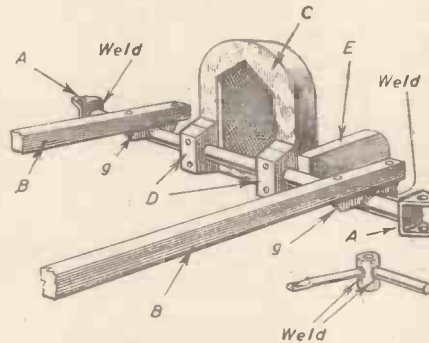
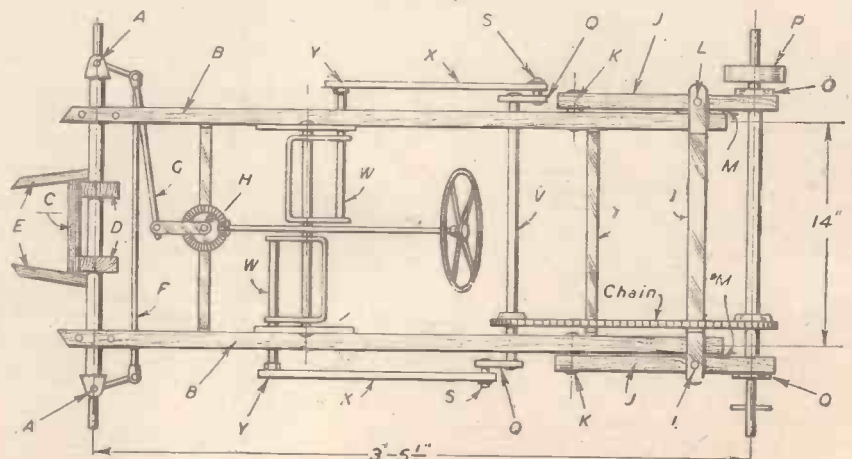

Fig. 2.—Details of front axle and stub axle mountings.
Fig. 3.—General assembly plan of the chassis.
The chassis members are of 1in. x 2in. hardwood, the 2in. dimension vertical, and the sides parallel. For the front axle a 19in. length of ½in. diameter mild steel tubing was cut, and a U-shaped bracket was welded to each end to take the stub axle mountings. These brackets are clearly shown at A in Fig. 2, and in the general assembly drawing, Fig. 3. Two drilled brackets for bolting to the chassis members B are shown at g, and were welded into position 7in. each side of
cross-member, which is shown at T in Fig. 3, also forms the front of two seat supports 3in. below the top of the chassis members.
Having thus obtained a fairly rigid chassis I set to work on the steering gear so that when the rear suspension was finished and fitted it could immediately be tested and adjusted. Two pieces of ½in. tubing were cut to fit inside the U-pieces (A Fig. 2) at
of 5/16 dia. steel with a U-socket screwed on each end which fitted over a tongue filed on the swivel links. The steering layout is shown fully in Fig. 3, F being the track rod.
I removed the chuck and handles from an old handbrace and welded the body containing the gears on to a strip of ½in. x ½in. steel (H Fig. 3). This was bolted across the chassis 7in. from the front so that the gears were centrally placed, and a drag link connected from the existing arm on the larger wheel to the offside swivel arm G. The steering column was made from ½in. dia. tubing 21in. long, into which was inserted and riveted the shoulder of the small gear. The dashboard was cut out of 5-ply wood, and three dials—rev. counter, oil gauge, and fuel gauge—were inserted into suitable holes with celluloid covers. The assembly was fixed to the chassis by means of a strip aluminium former screwed right round the outside of the dashboard and bolted at each end to the chassis members.
The rear suspension was next tackled and is described with the help of Figs. 3, 4 and 5. The cross-member I is bent from 1in. x ½in. mild steel and forms the rear seat support and the top anchor of the
The rear axle was made from  $\frac{1}{2}$  in. dia. steel rod turned down to  $\frac{1}{4}$  in. dia. for  $3\frac{1}{2}$  in. each end to take the ball races and wheels. An adaptor was made to take an 18-tooth cycle chain wheel and to be a push-on fit on the larger diameter of the axle. This was put on to the shaft, but was not positioned or fixed until the crankshaft was fitted, and then a  $\frac{1}{2}$  in. ball race in a suitable steel housing was pushed on each end of the axle up to the shoulder between the  $\frac{1}{2}$  in. and  $\frac{3}{4}$  in. diameters. Each housing face was drilled with three  $\frac{1}{4}$  in. diameter holes to correspond with those in the arm J. A  $\frac{1}{2}$  in. dia. pin projecting  $\frac{1}{2}$  in. each end was put through the nearside end of the axle to engage with a slot in the hub of the wheel to take the drive. The wheel, a hammer-fit on the shaft, was kept against the pin by a spring washer between the wheel and a split-pin in the end of the shaft. The offside wheel revolves freely on the axle for "differential necessities." A 4 in. diameter wooden brake disc (P, Fig. 3), bolted to a steel adaptor, is secured to the axle between the bearing housing and the wheel. The whole axle assembly was then bolted on to the arms J by slipping it up into the slots N (Fig. 4) and bolting the arms J to the bearing housings O in Fig. 3. The chassis was then levelled up and springing adjusted equally.
$\frac{1}{2}$  in. x  $\frac{1}{2}$  in. tubing (V, Figs. 3 and 6). An adaptor to take another 18-tooth chain wheel was slipped over the tube V, and another crank web made in a similar manner was riveted to the other end of U at 180 deg. to the first. The complete crankshaft was then placed in position in the chassis and with each web at an equal distance from the chassis members, the adaptor was positioned just inside the near side chassis member, where
A radiator was cut out of wood and shaped as at C in Fig. 2, and the open space filled in with wire gauze. It was fixed to the front axle with two brackets (D), and the edge is at a slight angle to coincide with the taper of the bodywork from the radiator to the scuttle. A wooden former cut to the shape of the side radiator fairings (E, Figs. 2 and 3) was screwed to each side before fixing finally to the axle.
The bodywork does not merit much description as it is quite a simple light construction of aluminum sheet, cut to shape from cardboard or thick brown paper templates. The scuttle was put on first, being screwed to the dashboard and direct to the chassis. The two fairings over the front axle were fixed next, using the same bolts that secure the axle to the chassis, and screwing to the formers E, Fig. 2. The radiator cowl was cut to shape and screwed round the radiator and inside the two E formers.